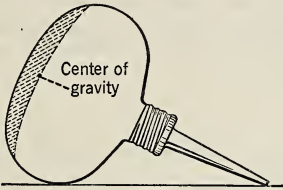

FIG. 186. Why will can right itself?
3. Why does the oilcan shown in Fig. 186 right itself when placed on its side?